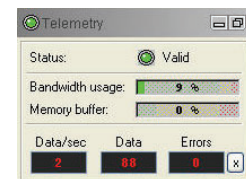

Figure 3-3 Telemetry panel
6. ☐ Press the **Record** button in the **Acquisition** panel (**Figure 3-3**), specify a file name and start the logging.